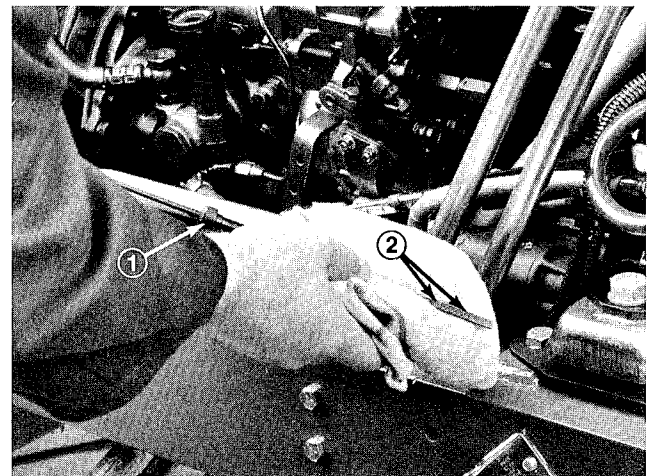
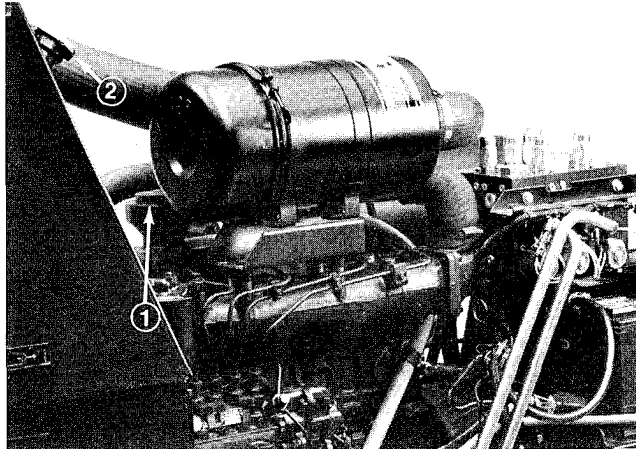

Figure 3
Figure 4
3. Remove dipstick, wipe with a clean rag (Fig. 3) and insert in tube until it is fully seated. Remove from tube and check oil level. If oil level is low, remove filler cap (Fig. 4). Add oil until level is to top notch on dipstick (Fig. 3). **DO NOT OVERFILL.**
2. Remove radiator cap (Fig.4). Level of coolant must be above the radiator core and about 1 in. (25 mm) below bottom of filler neck.